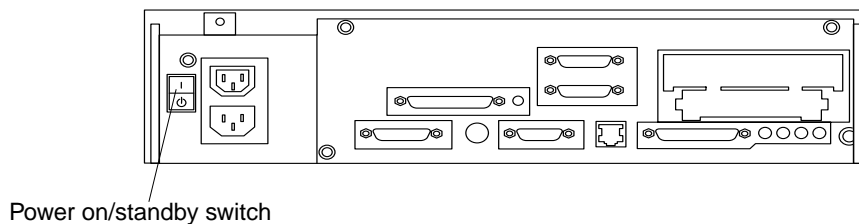
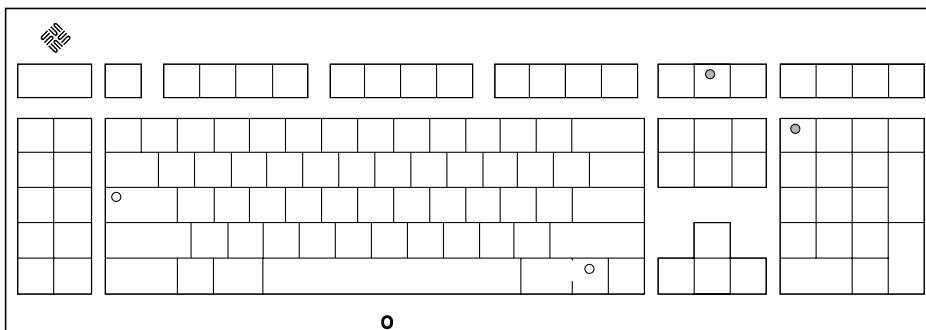

FIGURE 6-1 Rear View of the System
FIGURE 6-2 Sun Type-5 Keyboard
2. **Set the power on/standby switch to the on (I) position (FIGURE 6-1) or press the Sun type-5 keyboard power-on key (FIGURE 6-2).**
(FIGURE 6-1) or **press the Sun Type-5 keyboard power-on key** (FIGURE 6-2).